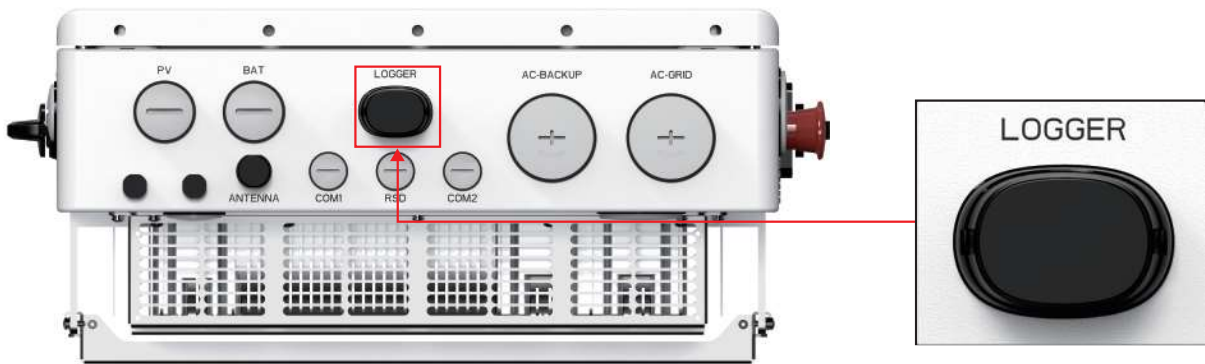

Figure 4.22 Solis Data Logger
- **RS485 Communication** (LG batteries): Run a CAT5 cable between the battery and the inverter. Split the cable at both ends and then use the diagram in Figure 4.22 to connect the four wires on both the battery and inverter ends.